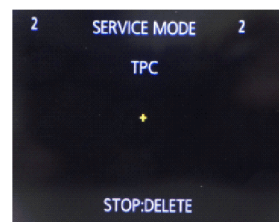

Fig.3-13
9. The (+) mark appears in the center (Fig.3-13). Then touch the (+) mark.